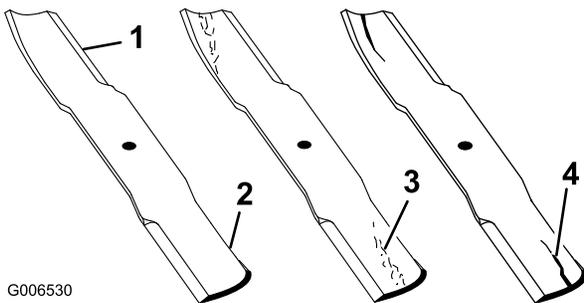

Figure 51
1. Inspect the cutting edges (Figure 51). If the edges are not sharp or have nicks, remove and sharpen the blades. Refer to Sharpening the Blades.
2. Inspect the blades, especially the curved area (Figure 51). If you notice any cracks, wear, or a slot forming in this area (item 3 in Figure 51), immediately install a new blade.